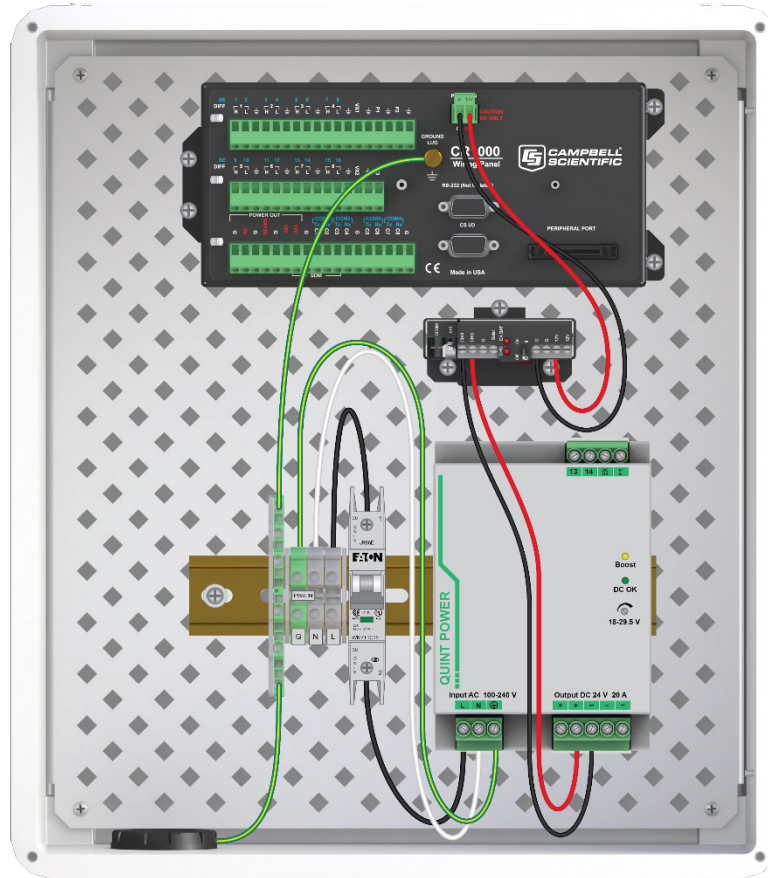

FIGURE 5-11. 20 A power supply wiring
10. FIGURE 5-11 shows an overview of the complete 20-amp kit Campbell Scientific pn 28372. The CR1000 and CH200 are not included in the kit. The 20 A power supply has a ground terminal, and requires a 12 AWG green wire to be connected between the ground terminal on the power supply and the G (Ground) terminal block as shown.